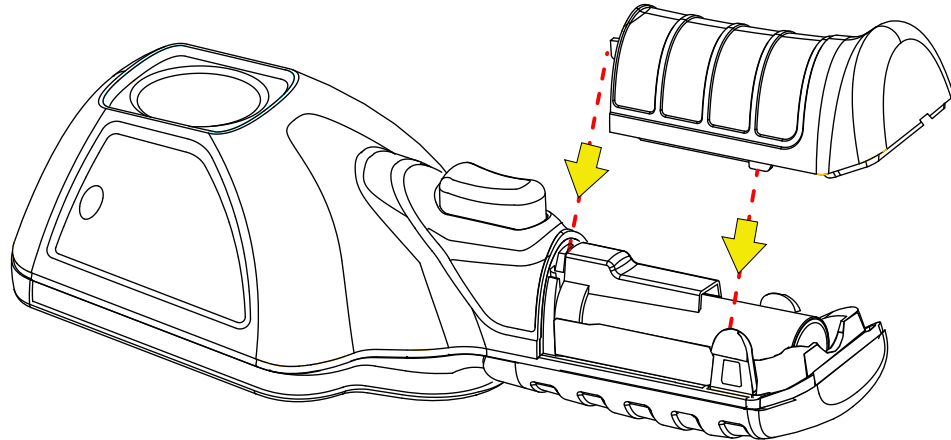

Figure 5-5
3. Install the battery cover. Press down until the locking tabs secure the cover (Figure 5-5).